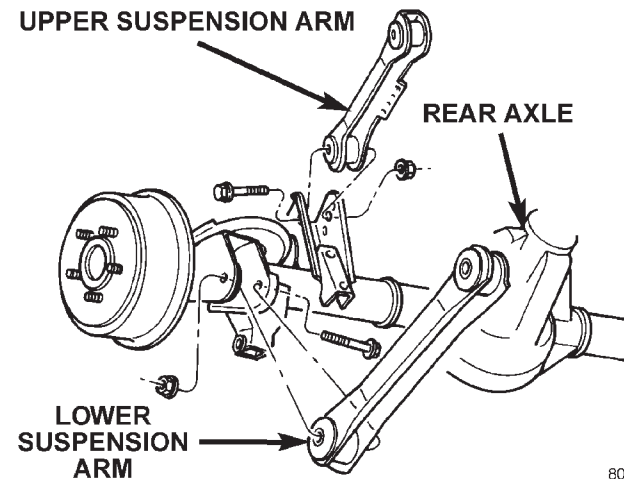

Fig. 2 Upper & Lower Suspension Arms
- (1) Raise and support the vehicle.
- (2) Remove the lower suspension arm nut and bolt at the axle bracket (Fig. 2).
- (3) Remove the upper suspension arm nut and bolt from the axle bracket (Fig. 2).